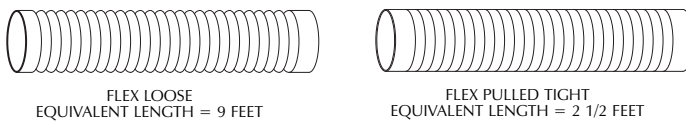

Figure 7
• **INSTALLATION TIP:** In this type of installation the installer should have mounted the bypass collar and damper in the most convenient location to run ducting back to the unit - If for some reason it was necessary to run ducting like this, hard metal ducting and elbows (sold separately) rather than the flex tube should be used; As well the installer should try to find the most direct route to duct. While the humidifier and bypass Collar and damper may be more than the recommended 30" apart the use of hard ducting rather than the flex ducting will make up for any restrictions or turbulence which would occur in aluminum flex tube. – Flexible ducting may be the most convenient for installation purposes however when it comes to air-flow it is highly restrictive,(see fig 7.) its use should be kept to a minimum and when used it should be pulled as tight as possible.